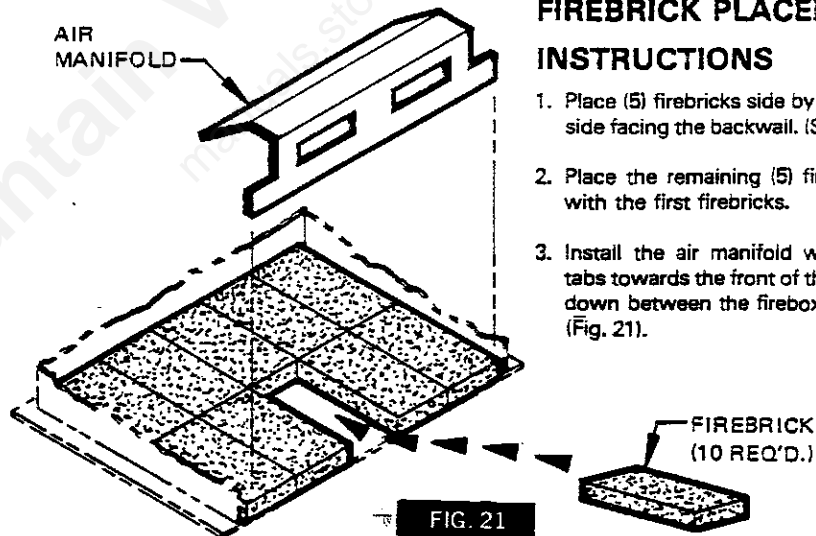

FIG. 21
1. Place (5) firebricks side by side with the 4-1/2" side facing the backwall. (See Fig. 21).
2. Place the remaining (5) firebricks end to end with the first firebricks.
3. Install the air manifold with the square end tabs towards the front of the heater and seated down between the firebox front and firebrick. (Fig. 21).